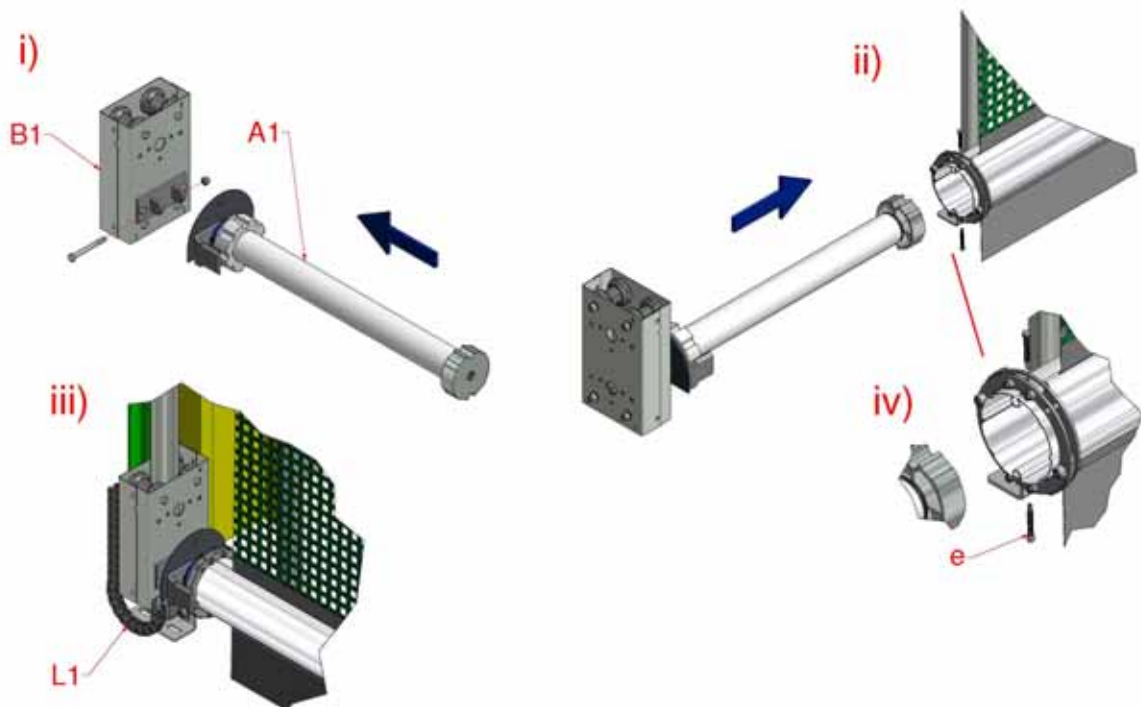

Figure 15b, Drive End Trolley Box
- 4.3 Assemble the Motor (A1) to the drive end Trolley Box (B1) using the M8x80 bolt and nyloc nut, Figure 15b. Fit the Energy Chain Bracket (L1) to the lower outside edge of the Trolley Box and insert the Motor and Trolley Box assembly into the drive end of the Bottom Rolling Tube. Secure the Safety Clutch to the tube with the two M4.2x32mm long self drilling screws (e) through the holes in the clutch plate spacers.